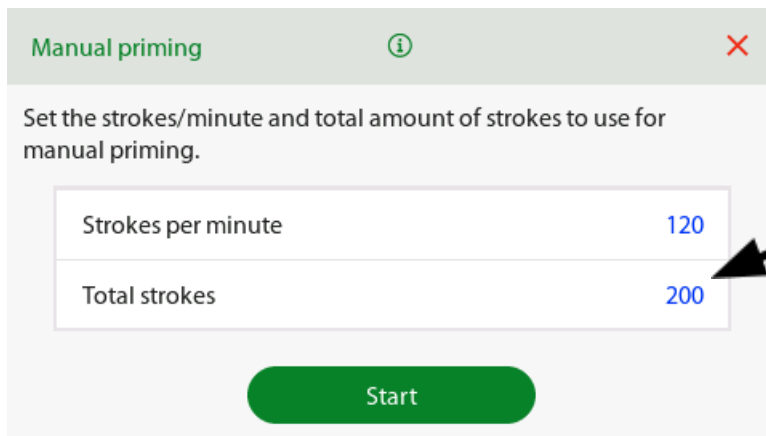

Figure 40
3. Adjust the value '**Total strokes**' to 300 (see Figure 40).